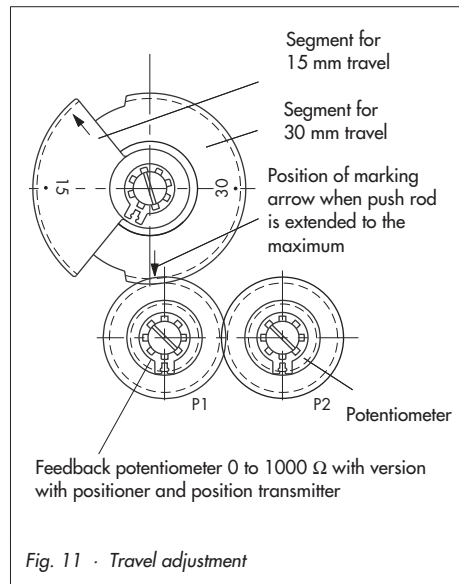

Fig. 11 · Travel adjustment
3. Turn the associated gear segment around its axis according to the nominal travel of the valve (15 or 30 mm) until the marking arrow is above the point where the gears mesh (Fig. 11).
4. Turn the associated gear segment around its axis according to the nominal travel of the control valve (15 or 30 mm) until the marking arrow is above the point where the gears mesh (Fig. 11).
The actuator can be equipped with either one or two potentiometers (Fig. 11), depending on its version. Actuators equipped with a positioner require a potentiometer (P1) for internal valve position feedback. Its resistance value cannot be used for external signaling purposes.
- Depending on the nominal travel of the valve, turn gear segment 15 or 30 mm on its axis until the marking arrow is above the point where the gears mesh (Fig. 11).